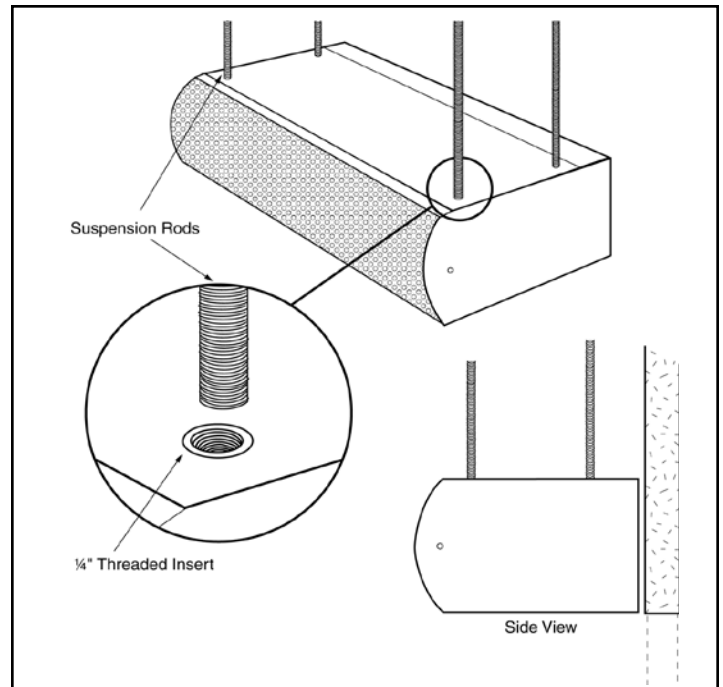

FIGURE 6 - Suspended Mounting
- B. Four (4) factory installed $\frac{1}{4}$ " threaded inserts are located on the top of the air curtain for top suspension mounting; on air curtains comprised of modules use the outer threaded inserts. To eliminate the slight deflection of longer air curtains, the inner threaded inserts may also be used. See Figure 6.